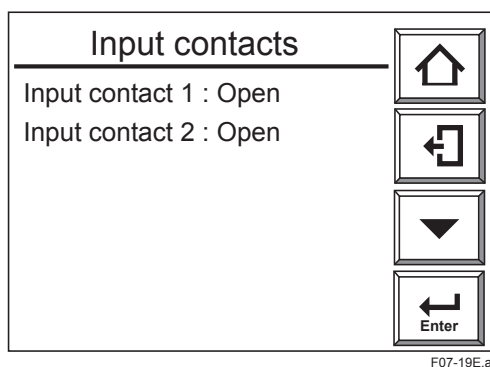

Figure 7.19 “Input contacts” Check Panel Display
- (1) Referring to Subsection 7.11.1, display the contact check display.
- (2) Display the “Input contacts” check display as Figure 7.19 shows. The “Open” or “Closed” Input contact in the display shows the current contact input terminal status and the display changes according to the contact status. Using this enables you to check that the wiring connections have been properly completed.